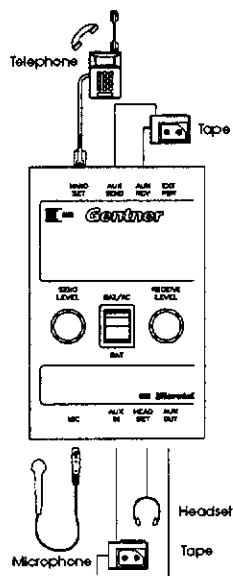

Figure 6
1. Set up your Microtel as described in "To Record Interviews" (page 9) and as shown in Figure 6.